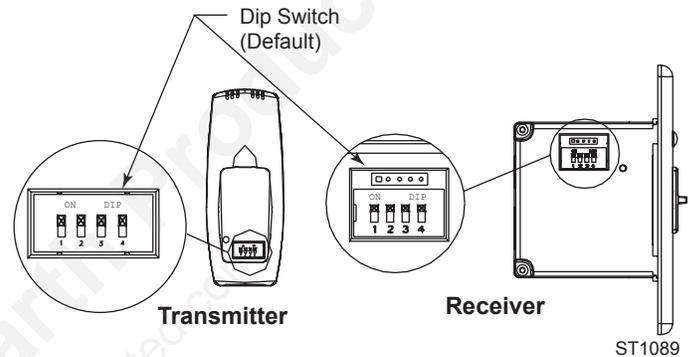

Fig. 58 The switches on the transmitter and receiver must match.
1. Slide the code switches on the transmitter and receiver to choice of ON or OFF position. Switches #1, #2, #3 and #4 are preset to "ON" for both the transmitter and receiver. (Fig. 58)